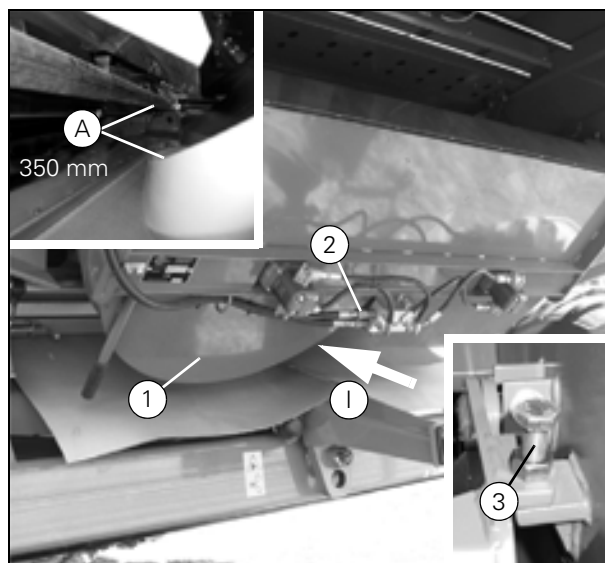
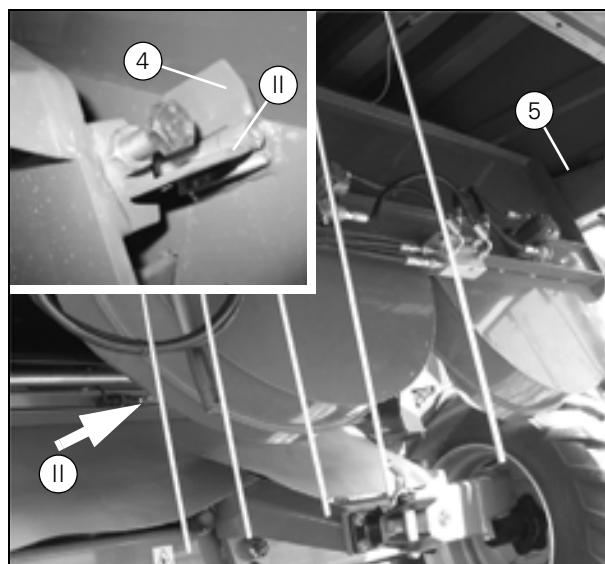
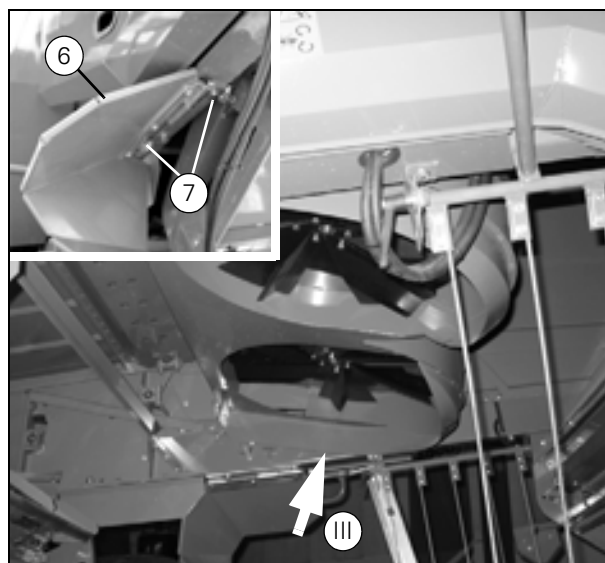

Fig. 50
Fig. 51
Fig. 52
(Fig. 50), (Fig. 51) and (Fig. 52)
When in use the chaff spreader must be in position I (Fig. 50). The setting of the chaff spreader in position I is adjusted with the nuts (3) so that the distance (A) from the grain loss sensor to the top edge of the chaff spreader is 350 ± 15 mm when the shaker shoe is in rearmost position, please see (Fig. 50). If the grain loss sensor is moved, the distance (A) must be checked.
When not in use, the chaff spreader must be in position II (Fig. 51). This position also gives access for adjustment/cleaning of sieves. The position of the chaff spreader in position II is determined by the two pivotal retainers (4) which when turned down, act as stops for the chaff spreader.
Position III (Fig. 52) gives access for replacement of sieves or other service purposes. To be able to fold up the chaff spreader into position III, turn the two pivotal retainers into vertical position. The position of the chaff spreader in position III is determined by the two gas struts (5) in the straw hood.